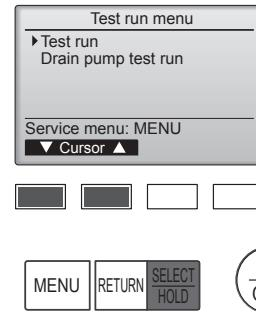

Fig. 7-4
④ Select “Test run” with the [F1] or [F2] button, and press the [SELECT/HOLD] button. (Fig. 7-4)